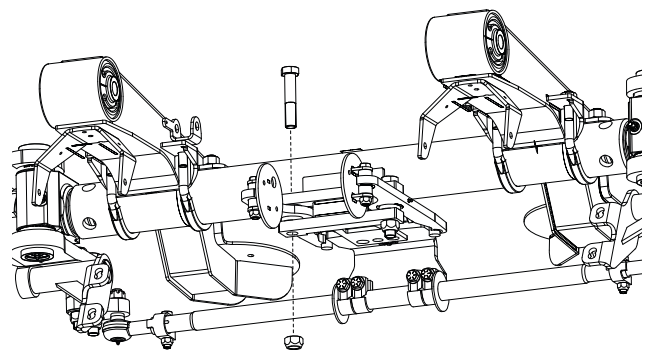

Figure 8: Lock-straight arm assembly pivot bolt removal
5. **Remove** lock-straight arm pivot bolts (Figure 8) for both lock-straight arm assemblies.